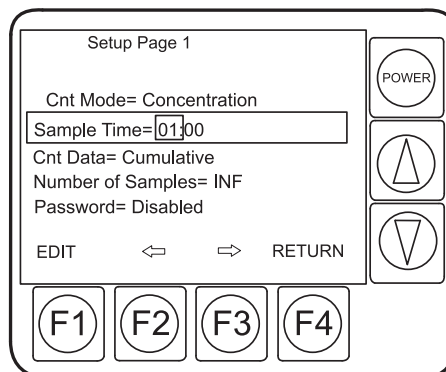

Figure 10 Change sample time
1. Press **F2** or **F3** before the Sample Time is changed to select the sample results display mode (refer to Figure 10 on page 20). The sample results will be displayed in Liters (L) or Cubic feet (CF).